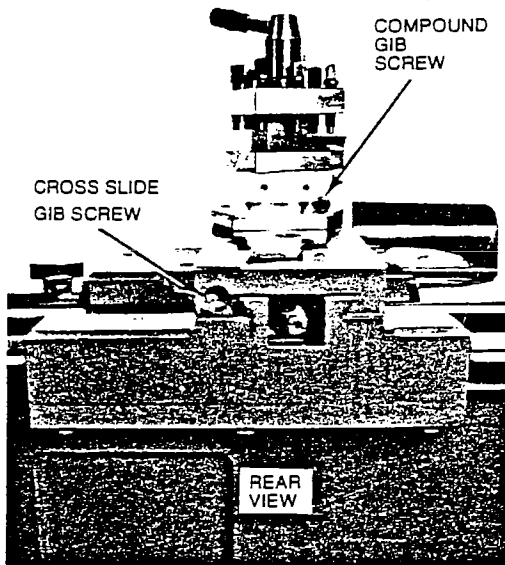

FIGURE 32
1. Loosen cross slide gib screw at rear (Figure 32).
1. Loosen compound gib screw at rear (Figure 32).